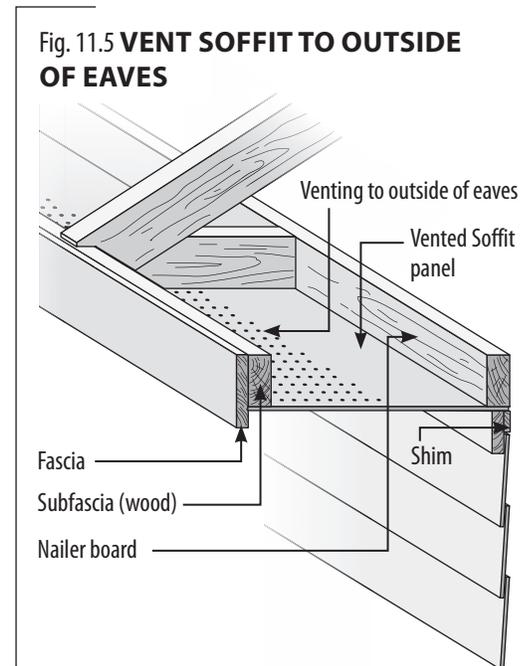

Fig. 12.1 **PORCH CEILING PANEL INSTALLATION**
- ▶ WeatherBoards™ Fiber Cement Porch Ceiling Panels must be installed over solid wood or steel framing spaced no more than 24" on center. Additional framing may be required for proper fastening (Fig.12.1). Be sure all edges are supported by framing.
- ▶ For 2x wood framing, use a minimum of 6d nails spaced 6" on center at panel edges and field framing members (Fig.12.1).